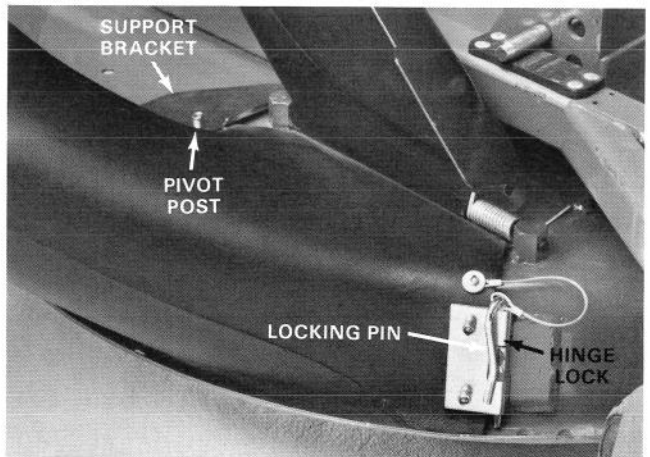

Figure 9
1. Slide chute assembly under deflector and into locking position with mating part of hinge lock. Insert locking pin (Fig.9).